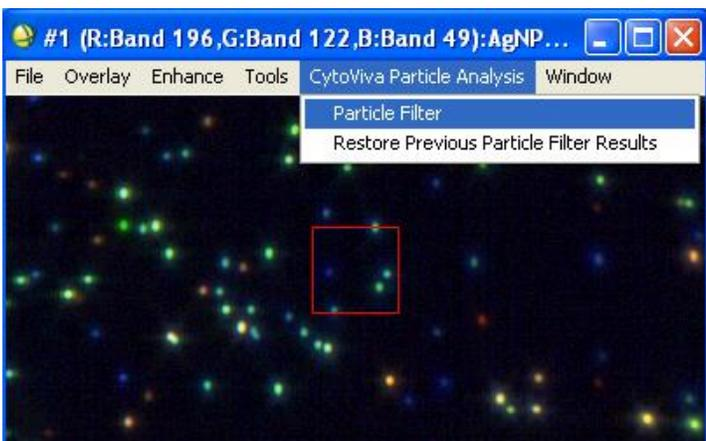

Figure 8.1a. Particle filter drop down menu
- In the image menu bar, select the Particle Filter Analysis (Figure 8.1a). Click Particle Filter.